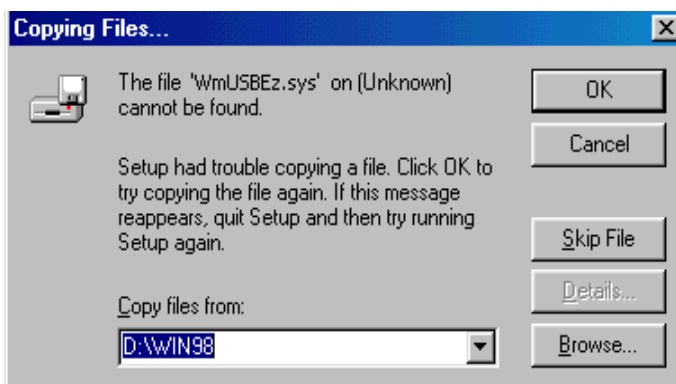

Figure 1-6. Windows 98 – Searching for .SYS File
7. Click **Next**. The **Copying Files** dialog box appears (Figure 1-6).